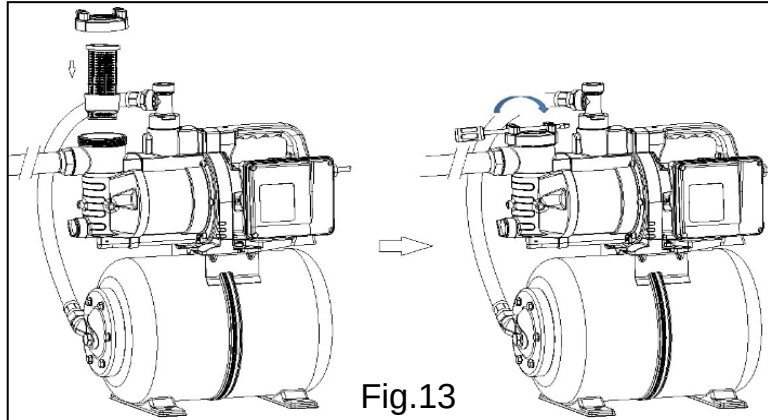

Fig.13
- (3) After carefully placing the filter back in place, check if the pump housing and suction pipe are filled with full water. If not workable, follow the steps for filling the pump housing in 7.1, fully fill water into the pump housing and suction pipe. Check the check valve in the filter is fine and can slide smoothly, and the filter cover seal is not dirty or missing anything in the filter. Then, rotate the filter cover clockwise to turn it back (Fig.13).